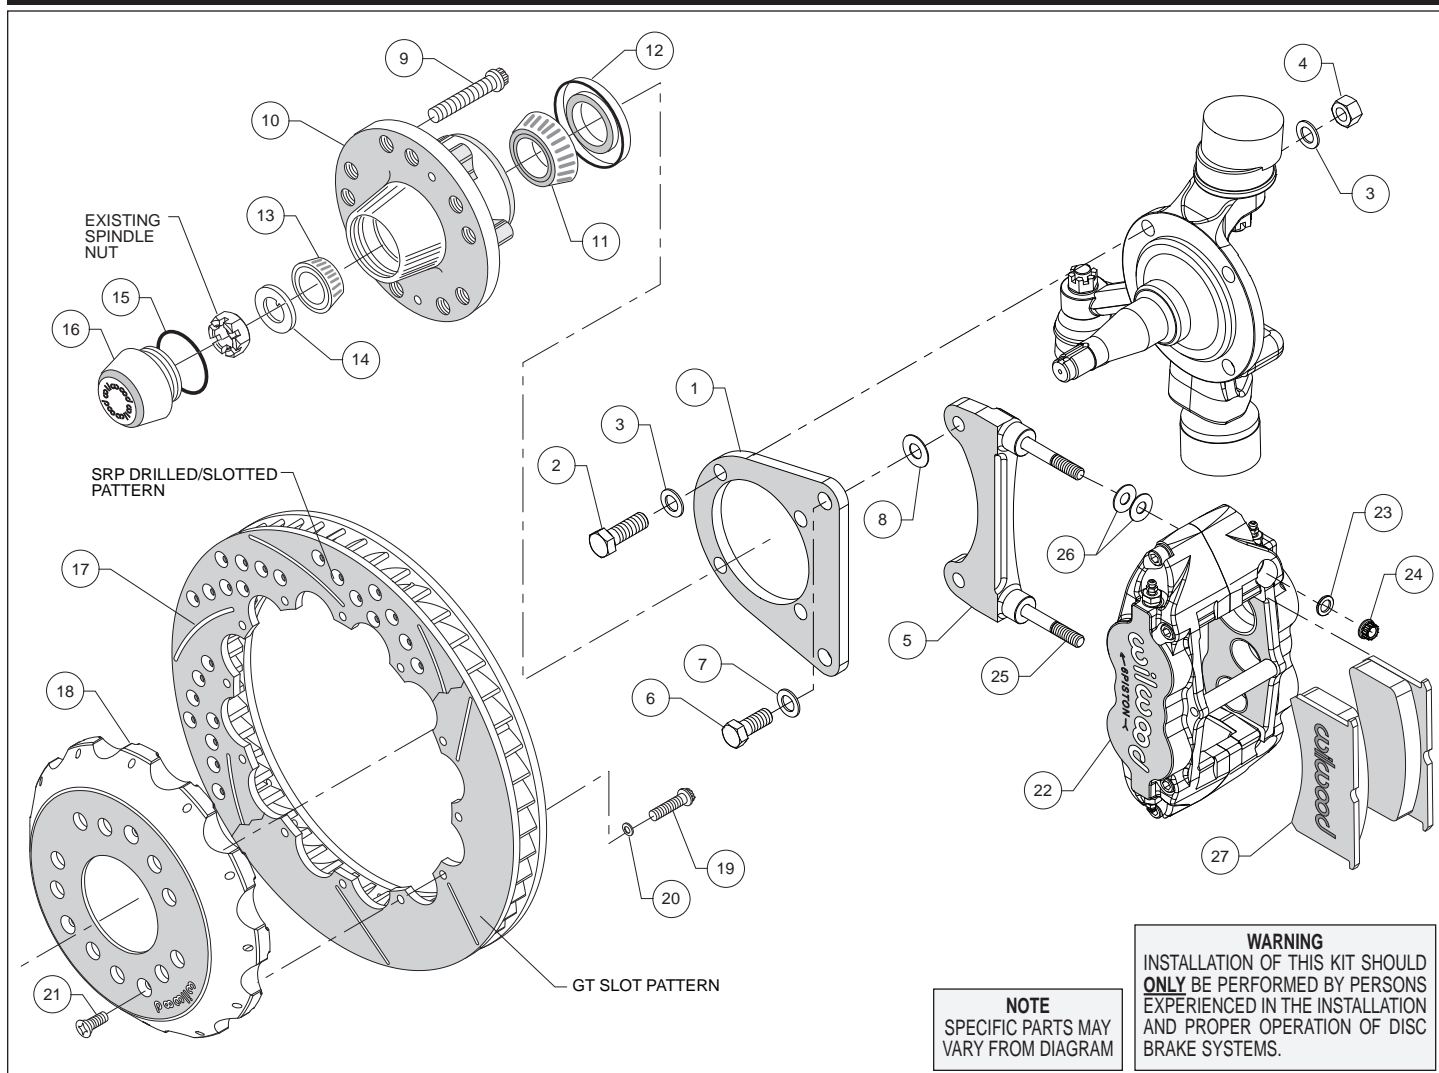
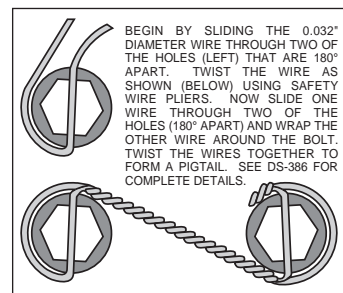

Figure 1. Typical Installation Configuration
Figure 3. Safety Wire Diagram
Assembly Instructions (numbers in parenthesis refer to the parts list, and Figure 1 on the preceding pages):
- Orient the flat bracket (1) as shown in Figure 1, and Photo 1, and install using bolts (2), washers (3), and nuts (4). **NOTE: The two lower mount bolts thread directly into the steering arm.** Temporarily tighten the mounting bolts. **NOTE: The bracket must fit squarely against the spindle face.** Inspect for interference from casting irregularities, machining ridges, burrs, etc. After the bracket alignment has been checked, remove the bracket mounting bolts (or nuts) one at a time and apply red *Loctite*® 271 to the threads. Torque bolts to 77 ft-lbs.
- The radial mount caliper bracket (5) should initially be installed with clean, dry threads on the mounting bolts. Orient the bracket as shown in Figure 1, and Photo 2, and install using bolts (6), and washers (7). Initially place one .029" thick shim (8) on each bolt between the flat bracket (1) and radial mount caliper bracket (5), Figure 1. Temporarily tighten the mounting bolts. Later, after the caliper alignment has been checked, the mount bolts will be secured using red *Loctite*® 271.
- Install wheel studs (9) into the hub (10), Photo 3. Torque to 77 ft-lb. **NOTE: There are two five lug patterns in the hub (5 x 4.50 and 5 x 4.75).** Ensure the correct hub stud pattern is being used to fit the wheel application.
- Pack the large inner bearing cone (11) with high temperature disc brake bearing grease (available from your local auto parts store) and install into the backside of the hub (10), Photo 4.
- Install the grease seal (12) by pressing into the backside of the hub (10), flush with the end of the hub, Photo 4.
- Pack the small outer bearing cone (13) with high temperature disc brake bearing grease and install into hub (10). Slide the hub assembly onto the spindle. Secure using spindle washer (14) and OEM spindle nut, Photo 5. Adjust bearings per OEM specifications. Install saved OEM nut lock (if any) and a new cotter pin (not included).
- Orient the rotor (17) and the hat (18) as shown in Figure 1 and Photo 7. Attach rotor to hat using bolts (19) and washers (20). Using an alternating sequence, apply red *Loctite*® 271 to the threads, and torque to 155 **in-lbs**. For an added measure of security, the bolts may be safety wired using standard 0.032 inch diameter stainless steel safety wire as shown in Figure 3. Please refer to Wilwood's data sheet DS-386 (available at www.wilwood.com/Pdf/DataSheets/ds386.pdf) for complete safety wire installation instructions.
- Slide the hat/rotor (17/18) onto the hub (10) taking care to align the small countersunk holes in the hat with the small threaded holes in the hub. **NOTE:** The hat must fit flush against the hub face or excessive rotor run out may result. Install three flat head screws (21) through the small holes in the hat (18), Photo 8, and torque to 85 **in-lb**.
- NOTE:** This kit contains distinct right and left hand calipers that must be mounted in a specific direction, as described below. Lubricate the caliper mounting studs (25) with lightweight oil. Initially place two .035" thick shims (26) on each stud between the caliper and the bracket, as shown in Figure 1 and Photo 9. Mount the caliper (22) onto the bracket (5) using lock nuts (24) and washers (23), Figure 1. Ensure that the caliper is mounted so the largest pistons are at the rotor exit end of the caliper, in relation to the direction of rotor rotation. Temporarily tighten the lock nuts and view the rotor through the top opening of the caliper. The rotor should be centered in the caliper, Photo 10. If not, adjust by adding or subtracting shims (8) between the flat bracket and the radial mount bracket. Always use the same amount of shims on each of the two mounting bolts. Once the caliper alignment is correct, remove the radial mount bracket bolts one at a time, apply red *Loctite*® 271 to the threads, and torque to 77 **ft-lb**.